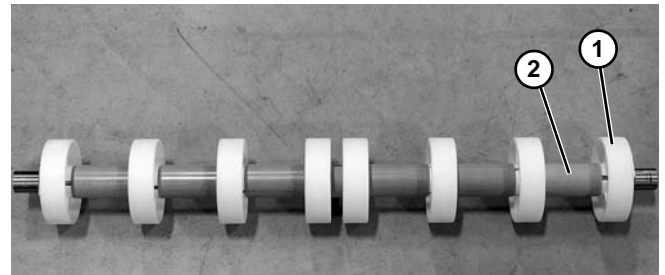

Figure 79
6. Remove pucks (Figure 79, item 1) and spacers (Figure 79, item 2) from the shaft. Repeat as needed.